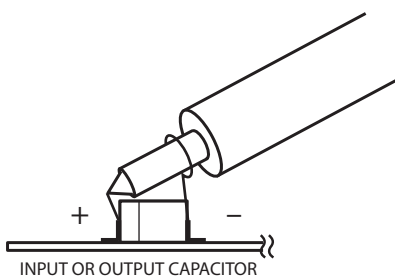

Figure 2. Proper Scope Probe Placement for Measuring Input or Output Ripple
4. Once the proper output voltage is established, adjust the load within the operating range and observe the output voltage regulation, ripple voltage, efficiency and other parameters. To measure input and output ripple, please refer to Figure 2 for proper setup.